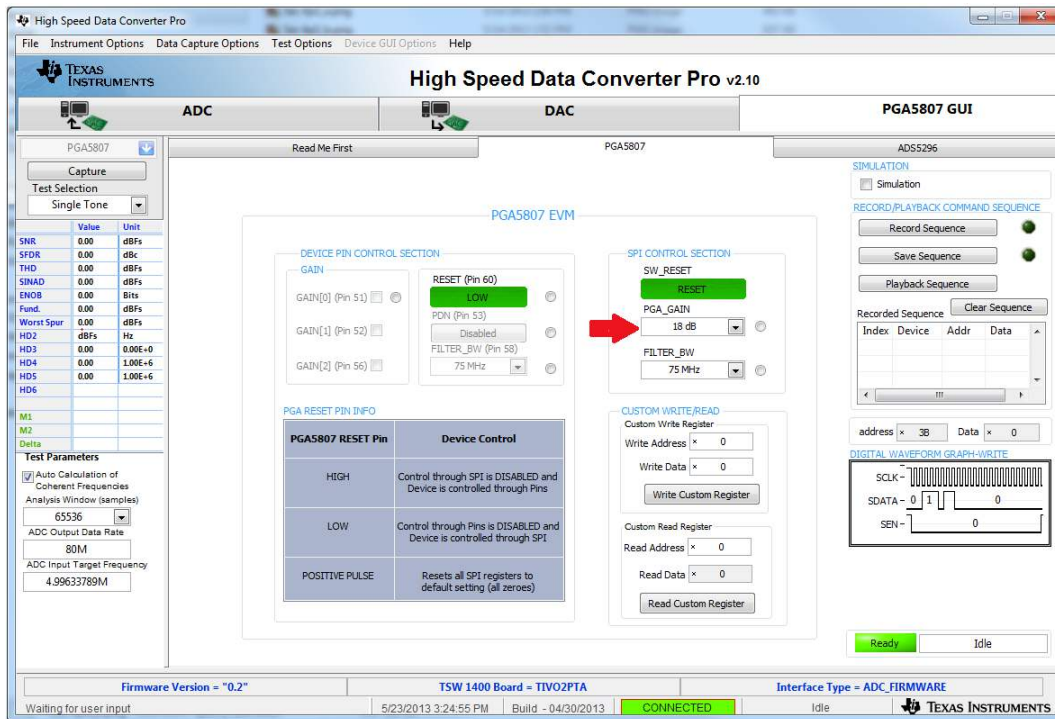

Figure 44. PGA5807 GUI Setup for PGA5807A + ADS5296A 1
2. Click on the PGA5807 tab as shown in Figure 44.